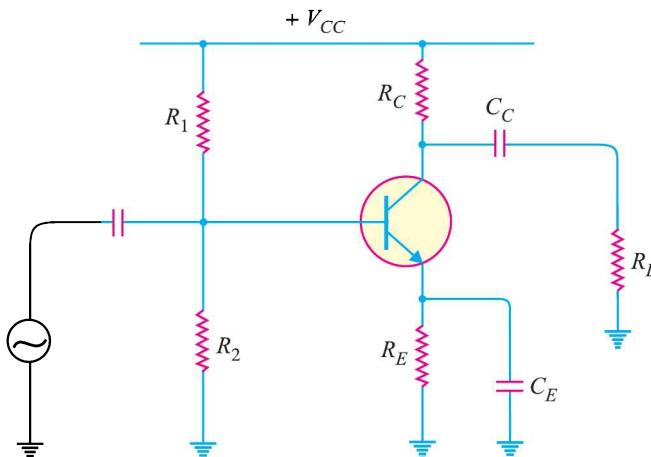

Fig. 10.46
3. Fig. 10.46 shows the transistor amplifier. If $R_C = 4$ k Ω , $R_E = 5$ k Ω and $V_{CC} = 30$ V, draw the d.c. load line.
4. Find the operating point for Fig. 10.46, $V_{CC} = 30$ V, $R_1 = 20$ k Ω , $R_2 = 20$ k Ω , $R_C = 4$ k Ω , $R_E = 5$ k Ω . [13.2V, 1.85mA]
5. For the circuit shown in Fig. 10.46, find the voltage gain if $\beta = 100$, $R_C = 3$ k Ω , $R_L = 6$ k Ω and $R_{in} = 2$ k Ω . [100]
6. In the circuit shown in Fig. 10.46, $V_{CC} = 30$ V, $R_1 = 2$ k Ω , $R_2 = 1$ k Ω , $R_C = 2$ k Ω , $R_L = 2$ k Ω , $R_E = 1$ k Ω . Draw the d.c. and a.c. load lines.